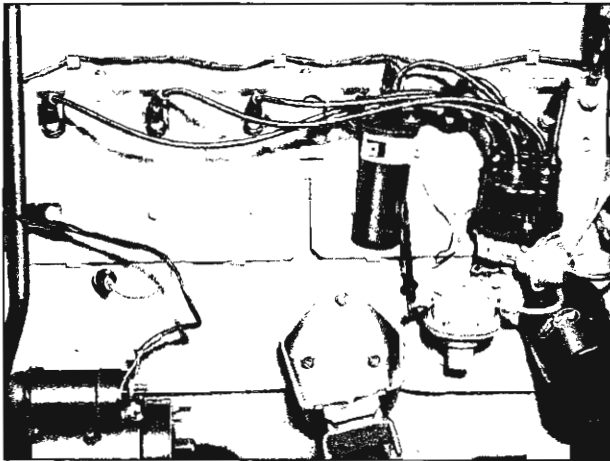

Fig. 50—Distributor Installed
3. Replace and tighten distributor hold-down bolt and clamp. Connect primary lead to coil. Also install spark plug and coil secondary wires if removed (fig. 50).
7. Install cap, distributor primary lead to coil, check all high tension wire connections and connect spark plug wires if they have been removed (see fig. 50). It is important that the wires be installed in their proper location in the supports.